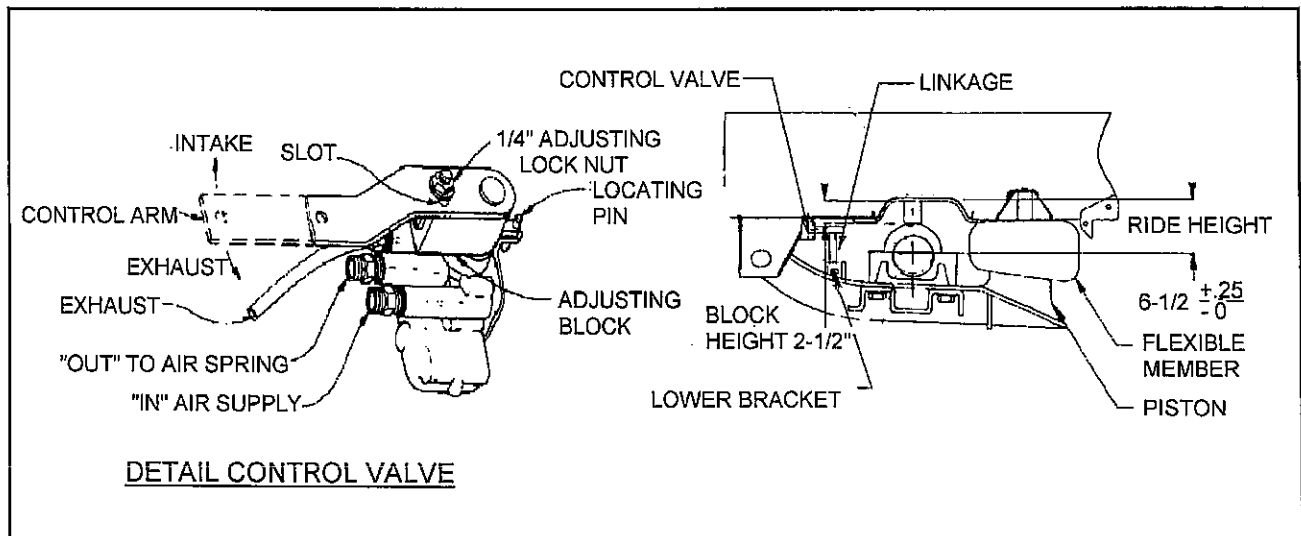

Figure 4-4 Air Ride Height Adjustment
### 4-7.1 Air Ride Height Adjustment. (See Figure 4-4 for parts identification).
e. Move the control arms to the "down" position (about 45°) for 10-15 seconds. Slowly return the control arms to the center position and insert locating pins into the adjusting block and bracket on the automatic height control valves (See Figure 4-4).